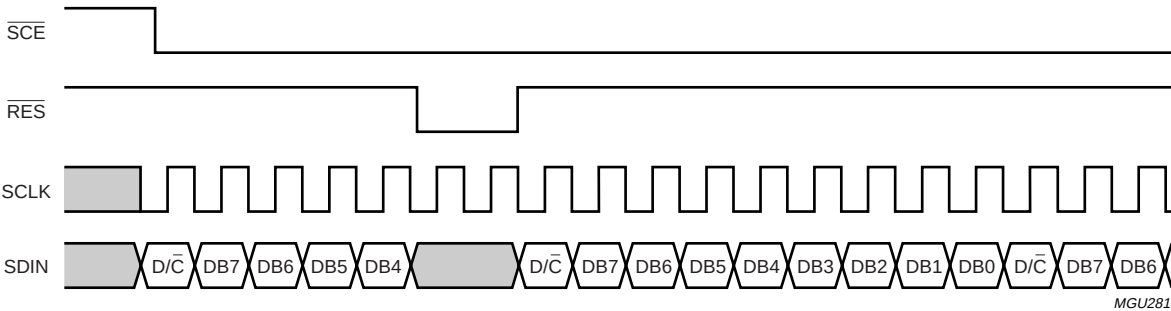

Fig.14 Write mode: interrupted by reset ($\overline{RES}$).
- A reset pulse with $\overline{\text{RES}}$ interrupts the transmission. The data being written into the RAM may be corrupted. The registers are cleared. If $\overline{\text{SCE}}$ is LOW after the rising edge of $\overline{\text{RES}}$, the serial interface is ready to receive the $\text{D}/\overline{\text{C}}$ bit of a command or data byte (see Fig.14).